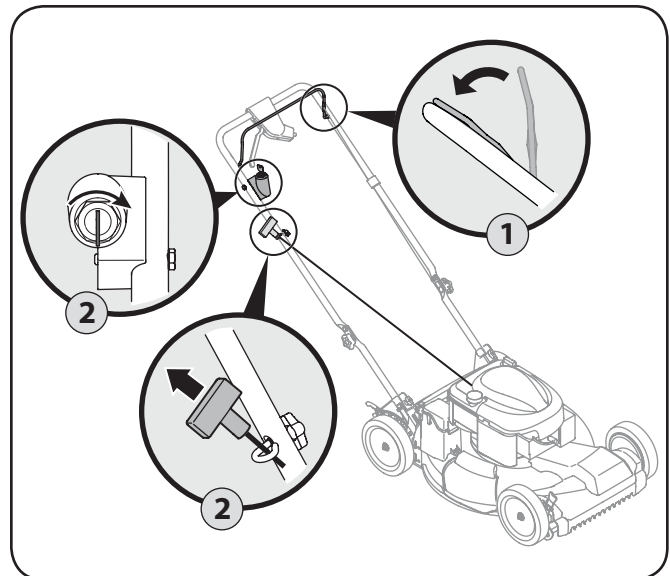

Figure 5-2
1. Standing behind the mower, squeeze the blade control against upper handle. See Fig. 5-2.